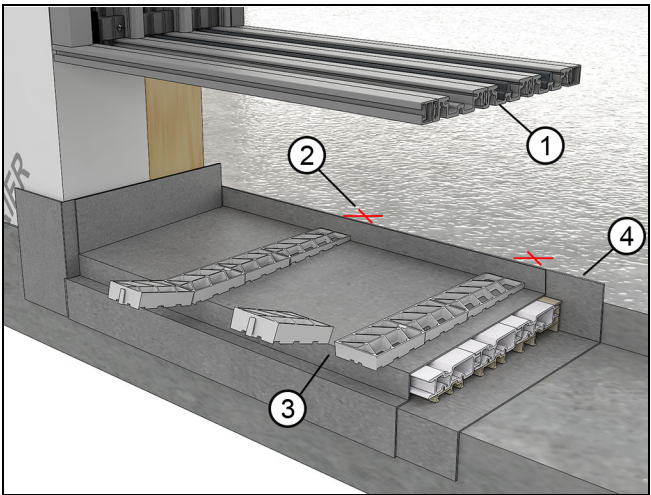

Figure 12 HP Sill (3 track shown)
- 2. If you have an odd number of sill tracks you will need to break off the exterior end of the counter-shim at the break line. See Figure 12.